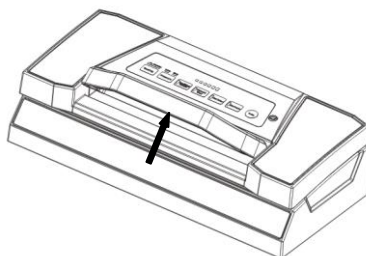

Fig.8
9. Press the handle to open the cover and take the bag out of the machine. The bag is then done and is ready for vacuum sealing -**Fig.8**